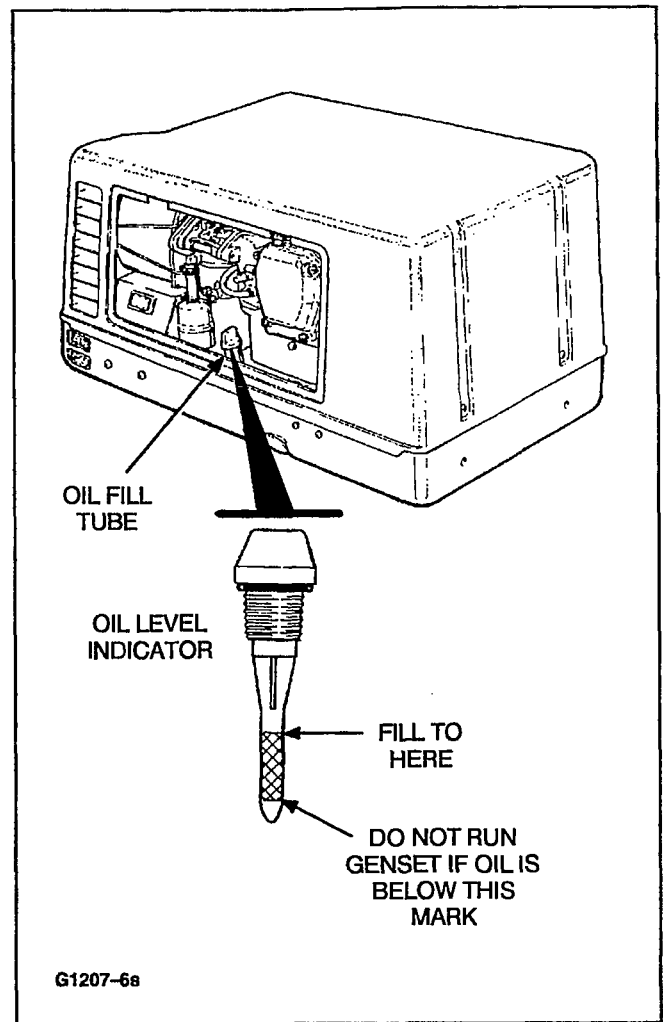

FIGURE 5. OIL LEVEL CHECK
1. Remove the oil level indicator and wipe it with a clean rag (Figure 5).